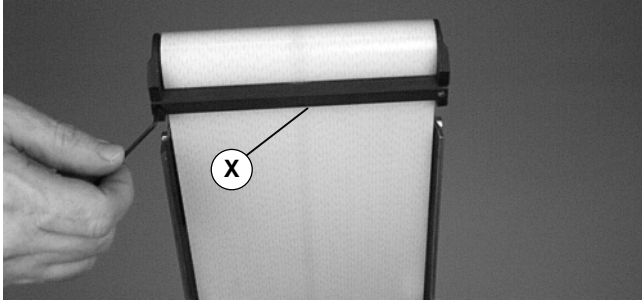

Figure 16
1. Remove and retain bottom wiper (X of Figure 16).